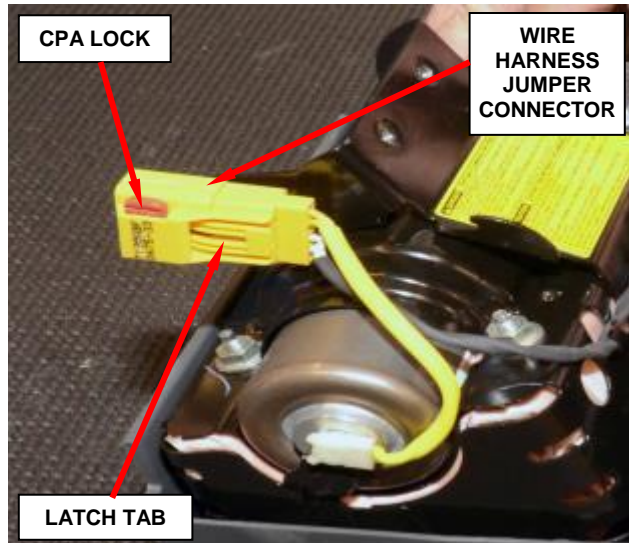

Figure 35 – Wire Harness Jumper
- a. Slide the red Connector Position Assurance (CPA) lock on the connector toward the side of the connector (Figure 35).